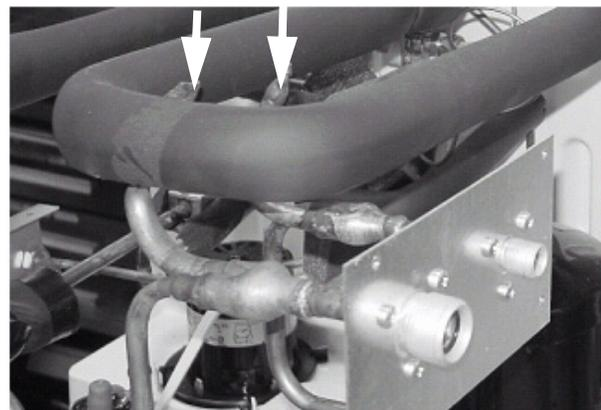

Figure 36.
43. Pinch off and braze shut the charging ports behind the Aeroquip fittings (Figure 36).